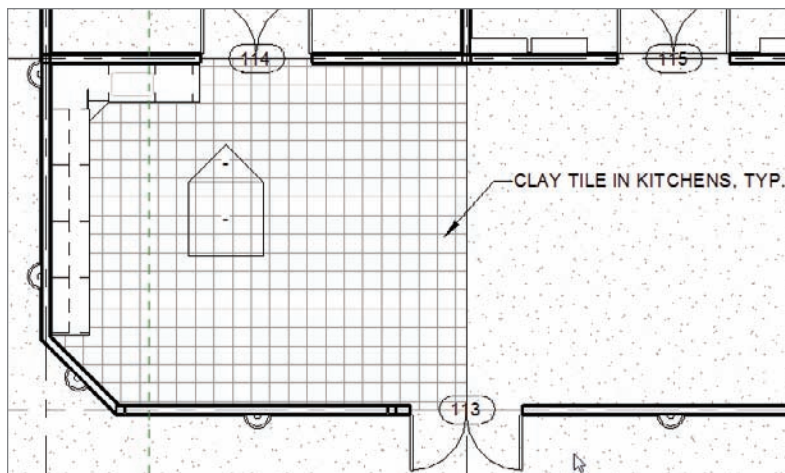

FIGURE 11.75 The material is now tagged with a leadered note.
5. Click OK. See Figure 11.75 to check the changed material tag.